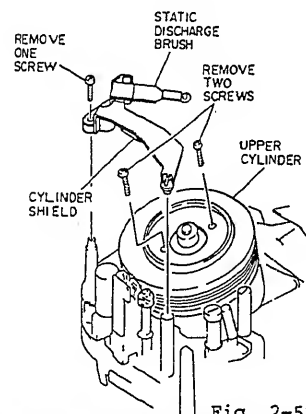
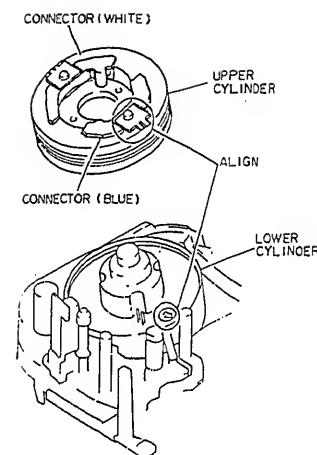

Fig. 2-55
Fig. 2-56
1. Remove one (1) screw holding the cylinder discharge brush and cylinder shield. (See Fig. 2-55)
2. Remove two (2) screws holding the upper cylinder and pull out the upper cylinder from the lower cylinder.
Upon reinstallation, align the video heads connected to the connector (blue) of the upper cylinder with the arrow mark on the lower cylinder. (See Fig. 2-56) Install the upper cylinder by the reverse procedure to removal. Tighten two (2) upper cylinder holding screws alternately. Adjust as follows after installing the cylinder assembly.